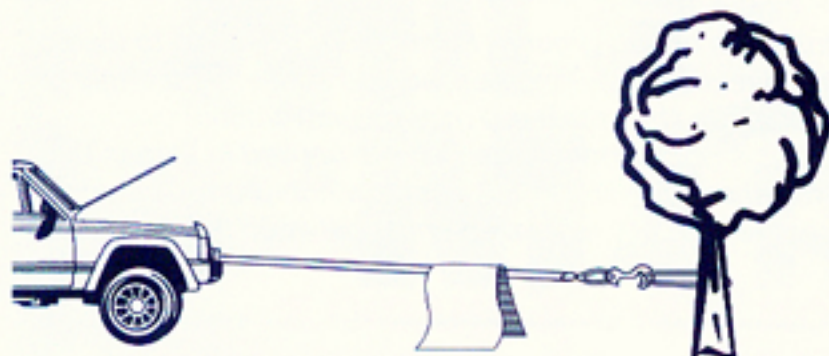

Figure 7
6. It is recommended to lay a heavy blanket or jacket over the rope about half way along to the hook attachment. If a rope failure should occur, the weight of the cloth will act as a damper and help prevent the broken rope from whipping. (See Figure 7). Remember to move the blanket or coat as winching proceeds, but halt winching when doing so. Partially raising the hood of the vehicle will also give a measure of protection to its occupants from broken rope, consistent with sufficient forward visibility for the operator.